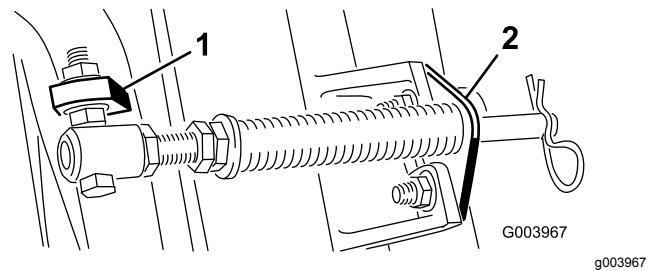

Figure 6
- Mount the spring tube bolt to the opposite tab on the carrier frame and secure with the flange nut. The bolt head is to be positioned to the outer side of the tab as shown in Figure 6.
- Mount the rod bracket to the cutting unit tabs with the carriage bolts and nuts (Figure 6).